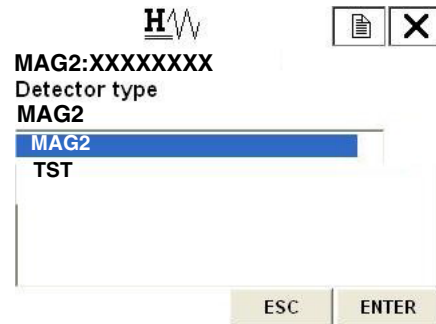

Figure 78.
Figure 78 is then displayed.
2. Once the display as shown in Figure 78 appears, move the arrow key up or down to select a flowtube type. After making a selection, press F4 (ENTER). If F3 (ESC) is pressed here, the selection is canceled and the display returns to the flowtube config menu.